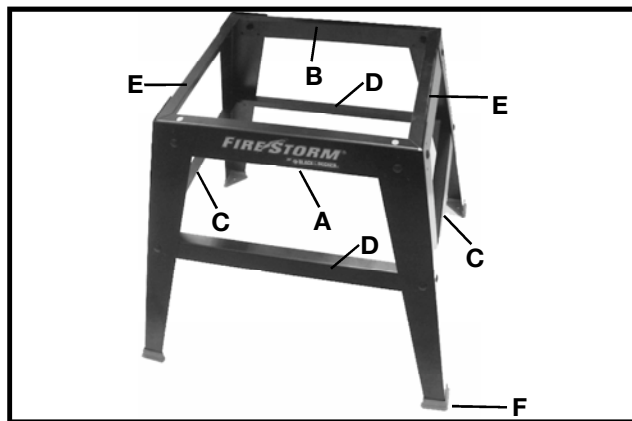

Fig. 4A
1. The stand legs have protrusions which align with the holes in the top and bottom brackets. Assemble the stand as shown in Fig. 4A, using 16 carriage bolts and hex lock nuts. Do not completely tighten the hardware at this time.
IMPORTANT: THE TOP, FRONT, AND REAR BRACKETS (A&B) FIG. 4A, ARE LONGER THAN THE TOP SIDE BRACKETS (E) FIG. 4A. THE BOTTOM FRONT AND REAR BRACKETS (D) FIG. 4A, ARE LONGER THAN THE BOTTOM SIDE BRACKETS (C).
2. Assemble the rubber feet (F) Fig. 4A. **NOTE:** Each rubber foot is provided with holes for mounting the stand to the floor surface if required.